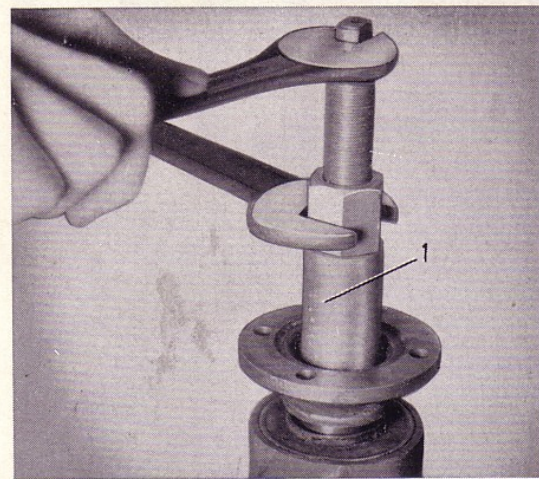

Fig. 9. Fitting the flange.
4. Press on the flange (yoke) by using tool SVO 1845, see Fig. 9. Fit the washer and nut. Tighten the latter to a tightening torque of 28—30 kgm (200—220 lb. ft.).